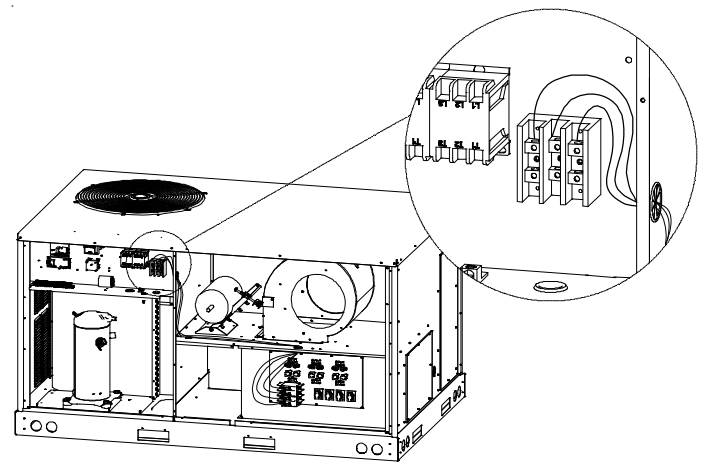

Figure 3
- Route all leads through the blower deck and into the control box as shown in Figure 3.